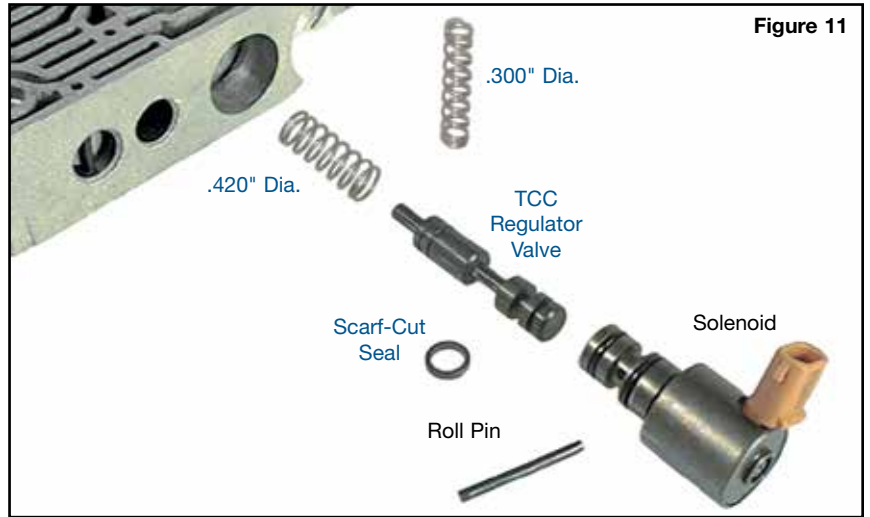

Figure 11
- For OE TCC apply feel, select the larger diameter (.420") Sonnax spring (Figure 11).
- For a firmer lockup (best suited for towing applications), select the smaller diameter (.300") Sonnax spring (Figure 11).